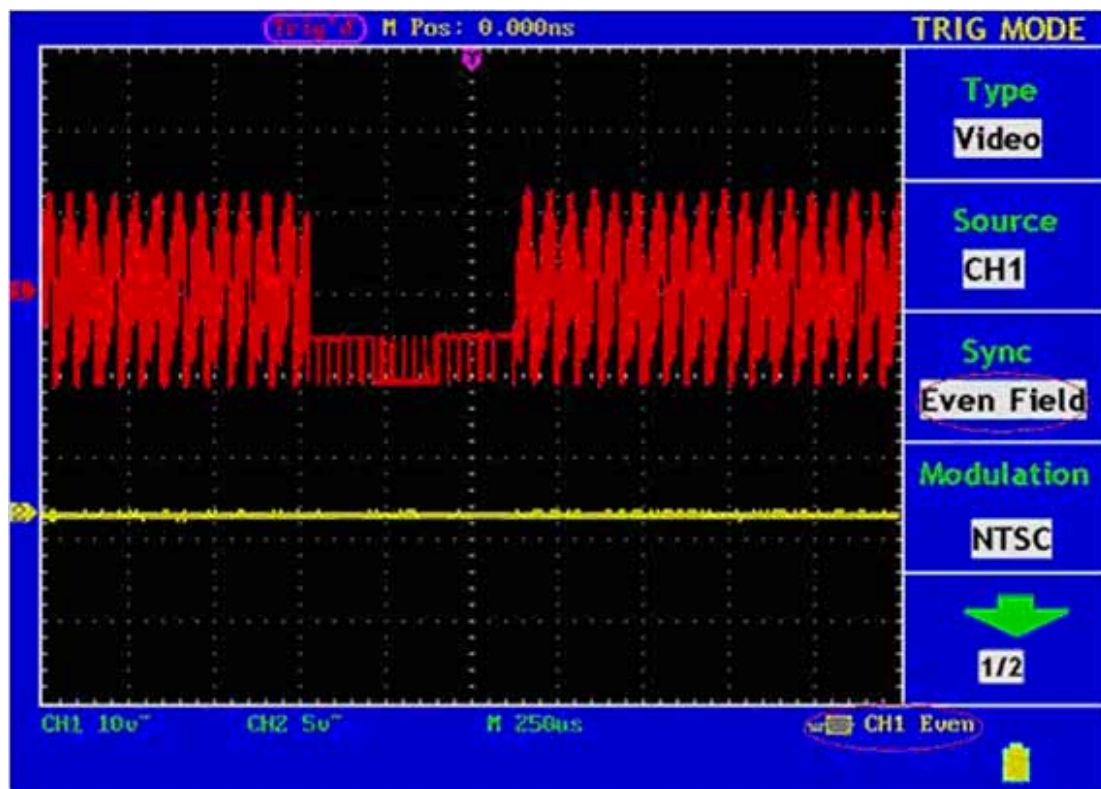

Fig. 34 Wave Form Triggered in the Even Field
7. Press the **F3** menu selection button again and choose **Even field** for Slope. The screen display is shown as Fig. 34.